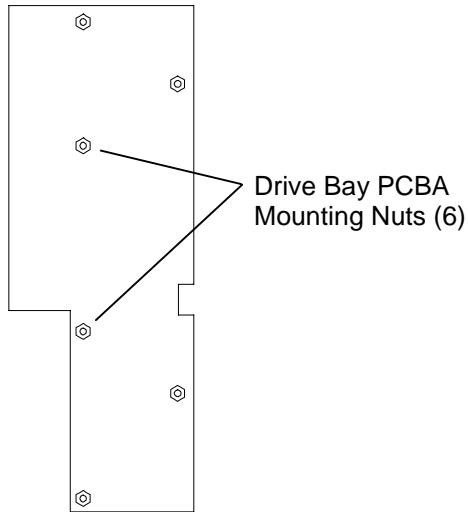

Figure 7-56 Drive Bay PCBA Mounting Nuts
10. Use a 1/4-inch nutdriver to remove the six PCBA mounting nuts and washers, then lift the PCBA off the mounting studs of the Bracket (Figure 7-56).
3. Install a washer onto a mounting stud, then with a 1/4-inch nutdriver thread a PCBA mounting nut onto the mounting stud. Install the remaining PCBA Mounting screws the same way (Figure 7-56).